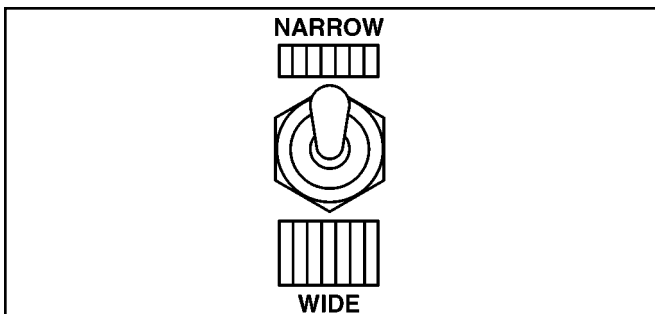

Figure 1-6 Narrow/Wide Switch
- **Narrow/Wide Switch.** (Refer to Figure 1-6) Allows operators to select the tolerance for what the Automatic Control System considers “On Grade”.